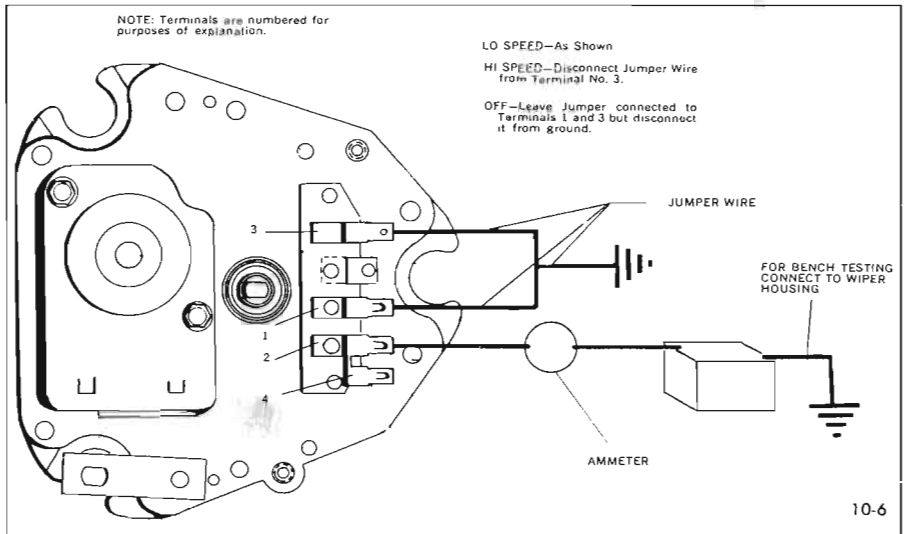

Figure 10-6—Connections to Operate Wipers
Figure 10-6 illustrates the method of connecting leads to the wiper for either bench operation
(b) With ignition switch on, check for 12 volts at harness terminal that connects to number (2) terminal (Figure 10-6).
(c) To determine if dash switch or car wiring are at fault, disconnect harness from wiper motor and try operating wiper as shown in Figure 10-6. If wiper fails to operate, remove body parts as required, disconnect transmission from wiper crank arm and recheck wiper operation. If wiper still fails to perform correctly, remove wiper from car and check wiper according to procedure under Trouble-Shooting Wiper Out-of-Car.
(b) Disconnect wiring harness from wiper motor and try operating wiper independently of dash switch as shown in Figure 10-6.